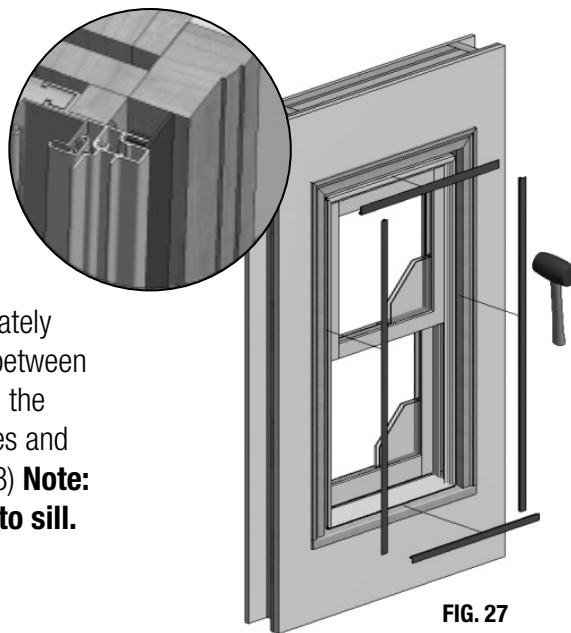

FIG. 27
- J) Using a mallet, apply frame expander to all four sides of the window. (Fig. 27)